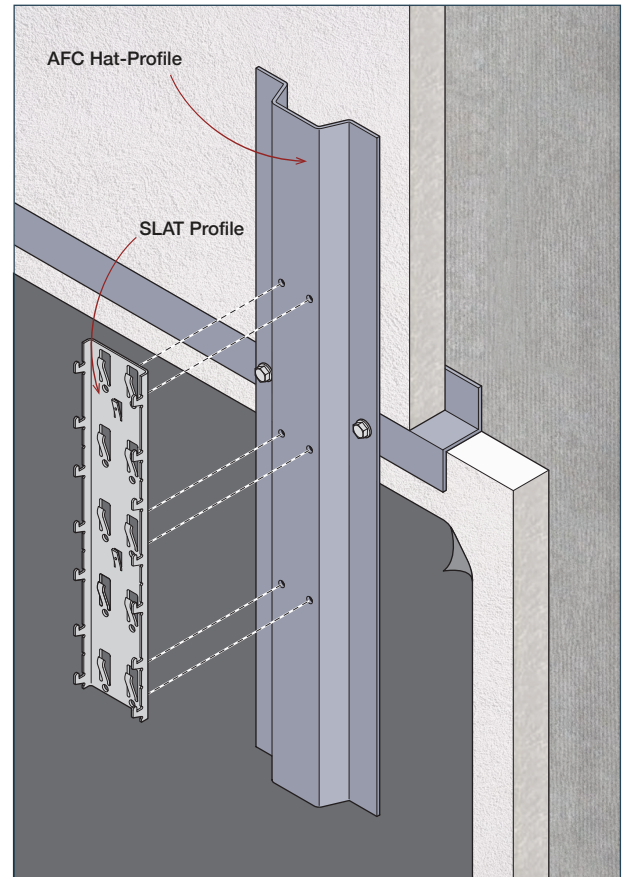

FIG. H3
b. For structures with exterior insulation, follow the insulation manufacturer's installation instructions. Z-Profiles, the same depth as the exterior insulation, can be attached to the studs. Then, AFC supplied Hat-profiles (6061-T6 Black Anodized) can then be fastened to these Z-Profiles. (FIG. H3 & H4)
- Hat-Profile Attachment (FIG. H3 & H4): Use a stainless steel 4.8mm x 19mm self-tapping screw (By AFC)